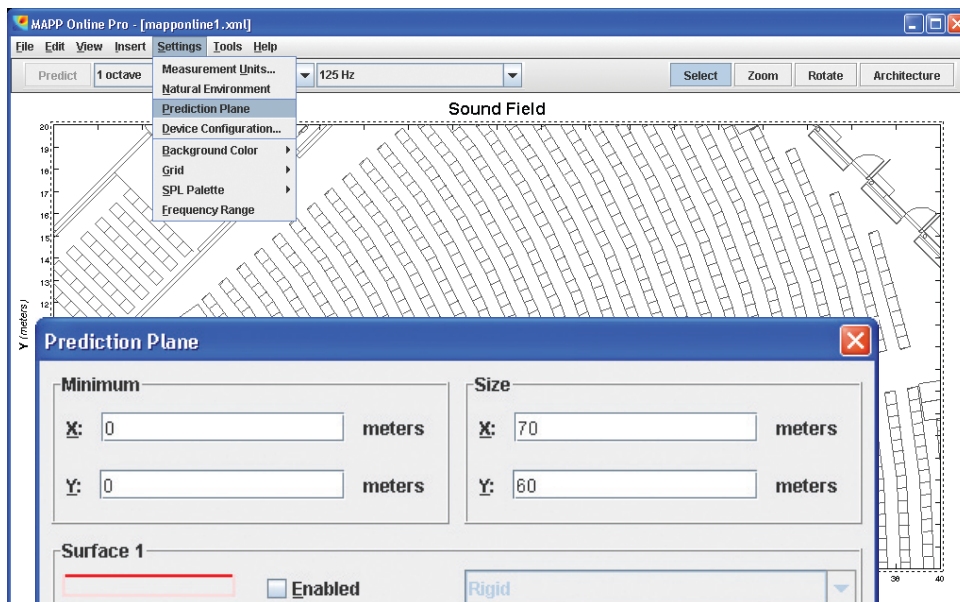

Figure A.1. Using the Prediction Plane with imported drawings
1. Choose **Settings > Prediction Plane** to bring up the Prediction Plane dialog (Figure A.1).